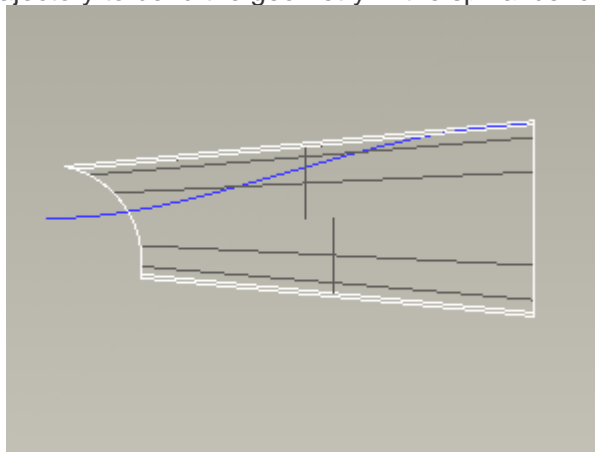

Figure 2
2. The solid geometry was created previously using parallel blends. Notice the blue datum curve in Figure 2. This datum curve will be used as the trajectory to bend the geometry in the spinal bend.